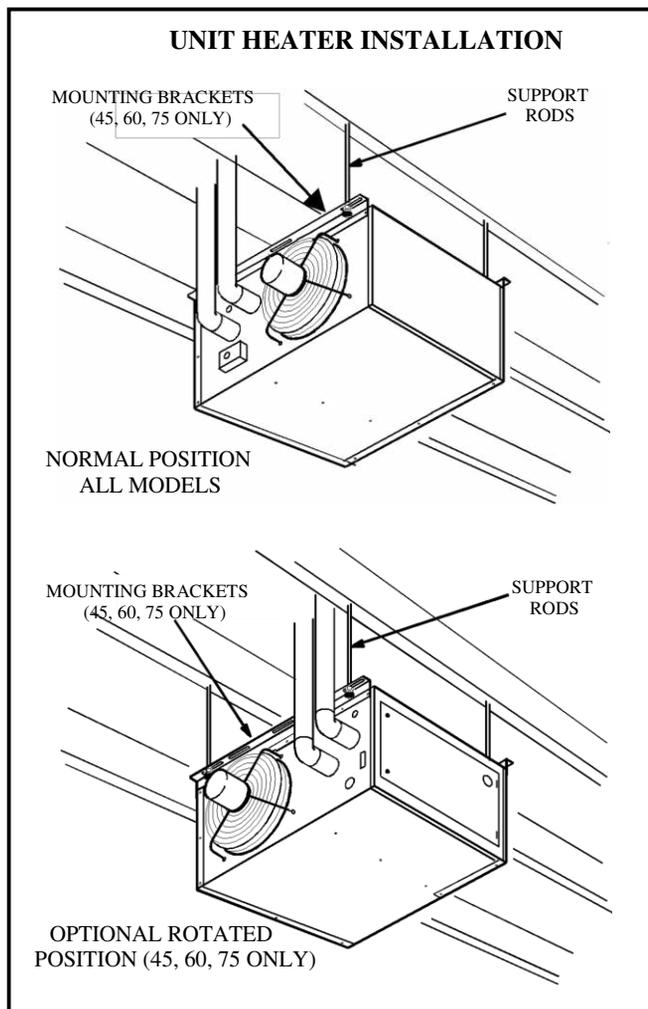

FIGURE 1
Unit is shipped ready for installation. FOA*-45, -60, & -75 units may be installed as shown in figure 1 or rotated 180° depending on desired location as governed by clearances, vent connection, air direction, gas supply, electrical supply and service accessibility.
- 5) To support unit, secure mounting bracket to ceiling joist or truss. Unit may also be supported using support rods as shown in figure 1.